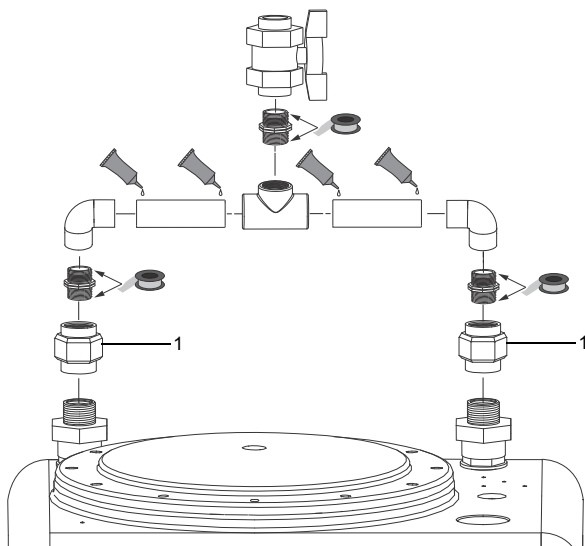

Fig. 17 Duolift CC, KP*
2. Connect the outlet pipes to the tank by tightening the two union nuts on the tank outlets. See pos. 1 in figures 17 and 19.